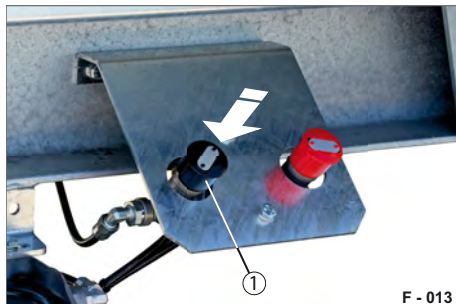

Fig. 16 Releasing service brake
- ▶ Press the release valve (Fig. 16/1).